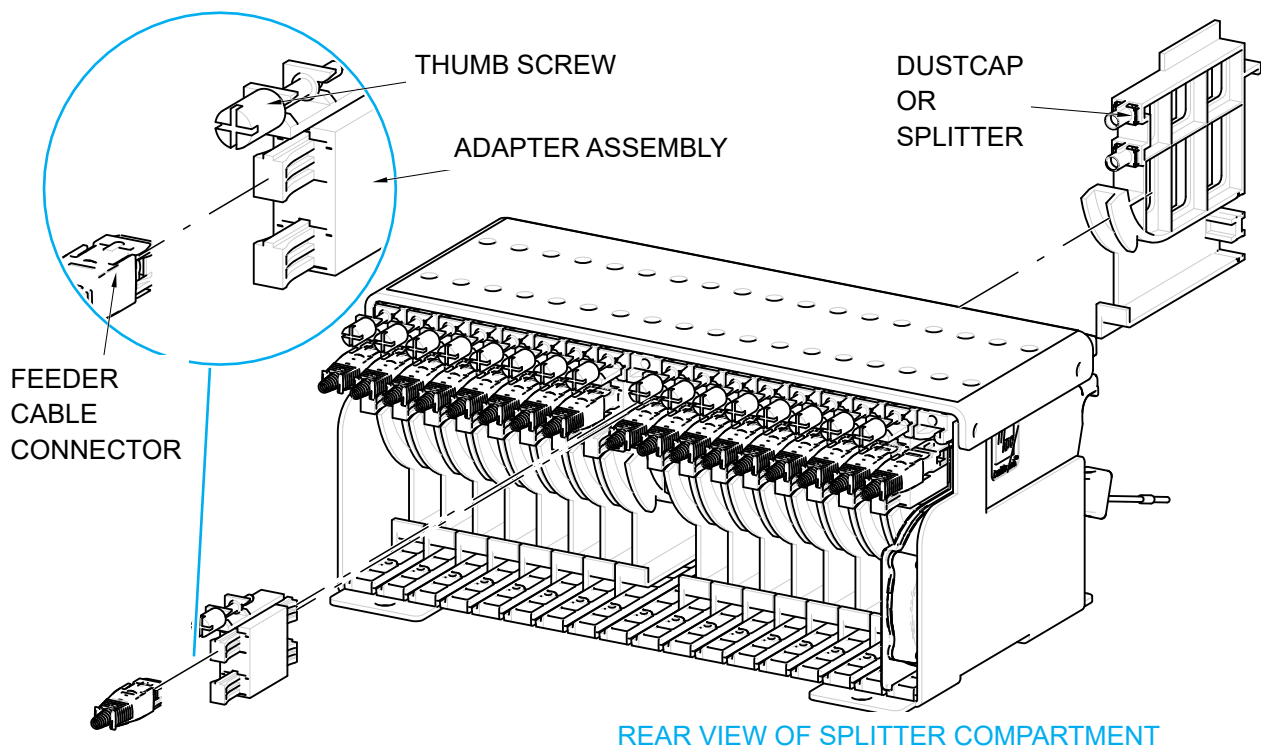

Figure 40. Splitter Compartment Adapter Replacement
- 18.3.3 Remove the feeder cable connector(s) from the rear side of the broken adapter assembly as shown in Figure 40 and install a dust cap on the connector(s).